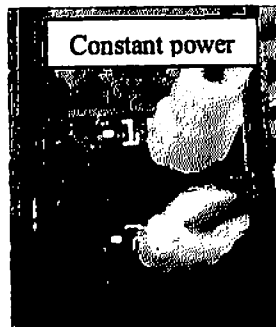

Figure 5
- 5) If Power Socket is constantly powered, attach **ONLY** the red wire to cold side of fuse (see Figure 5). Find a switched fuse/power line for the purple wire. Avoid safety related circuits. Purple wire can be connected to low amperage fuses. Be sure to connect purple wire to "cold" side of switched fuse.